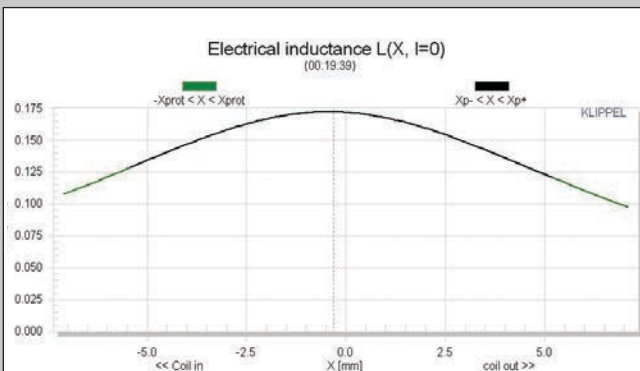

Figure 9: Klippel analyzer Le(X) curve for the Scan-Speak 15M/4625G00
Figure 9 gives the inductance curves L(X) for the 15M/4624G00, which shows the inductance decreases as voice coil travels inward covering more of the pole piece, typical of a driver with a shorting ring installed—it is aluminum in the case of the 15M mid-range. The inductance swing from Xmax forward to